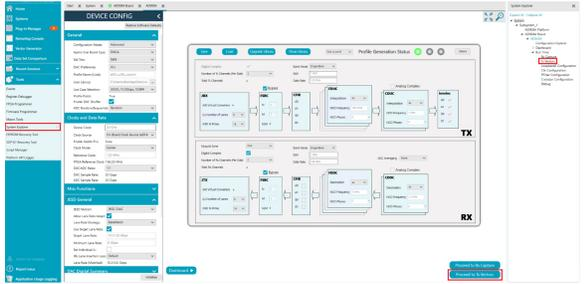

Figure 25. Tx Vectors Selection
1. Click **Proceed to Tx Vectors**. Alternatively, enable **System Explorer** from the **Tools** tab, expand the **Run Time** section, and select **Tx Vectors** (see Figure 25).